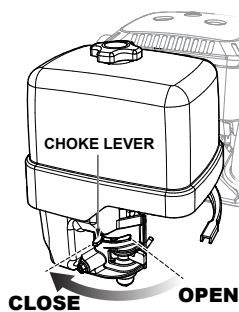

Figure 18. Choke Lever
2. To start a cold engine, move the choke lever (Figure 18) to the **CLOSED** position.